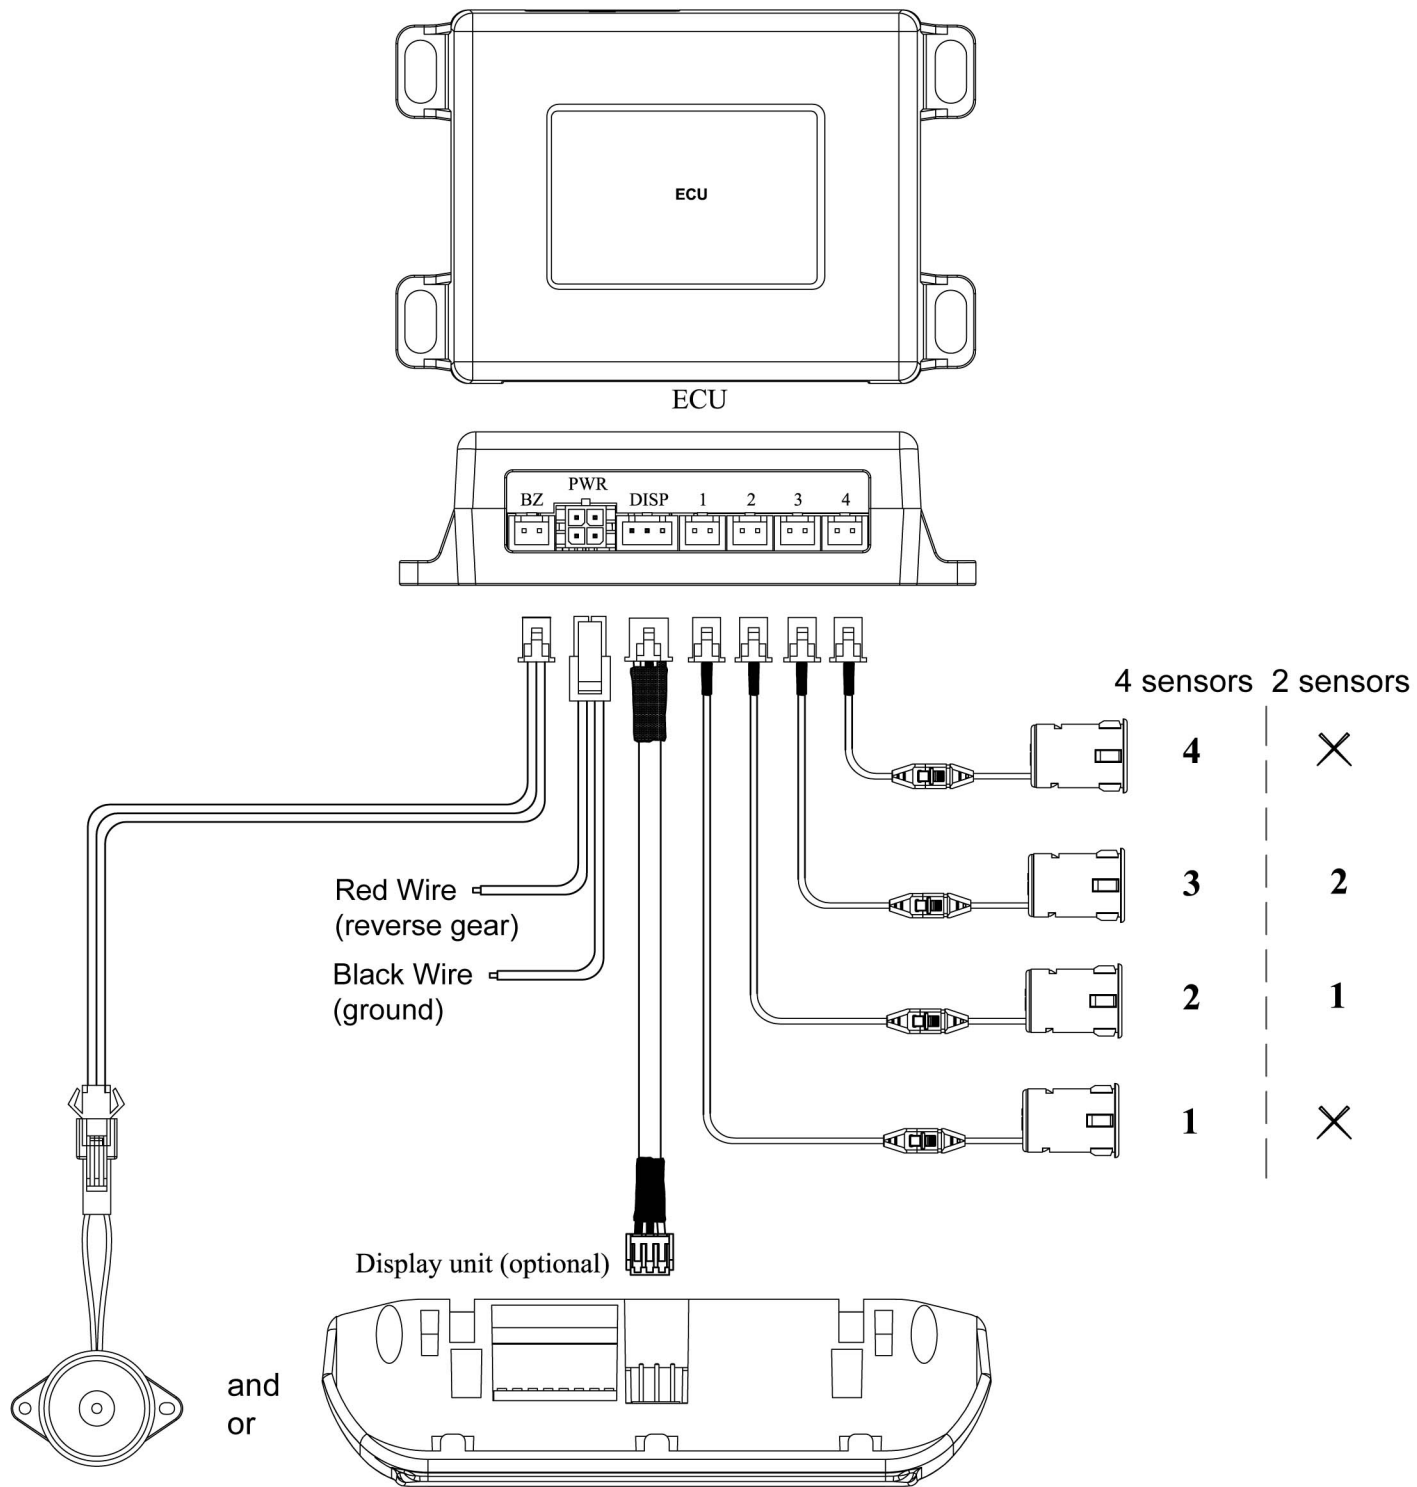

Figure 1.0 (wiring diagram)
Step 8: Make all necessary connection of the control unit. See wiring diagram in fig. 1.0.